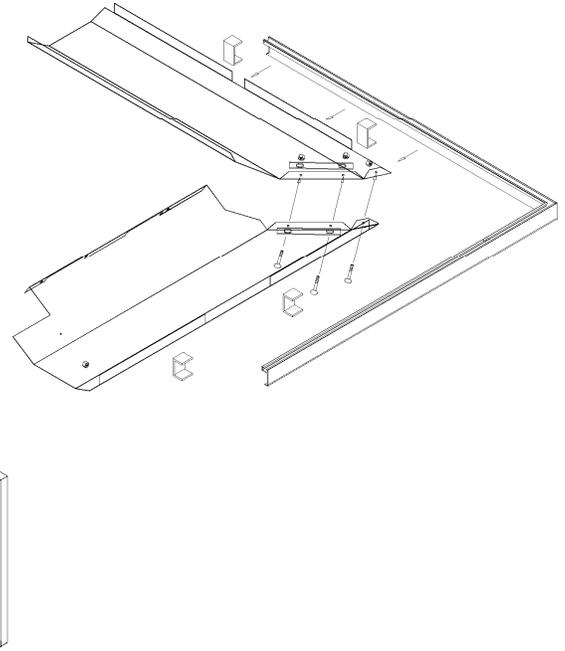

Figure 2.9d
3. Line up the holes of the side and top panels and secure with the six (6) screws, washers and nuts. (see Figure 2.9d)
5. Secure trim to faceplate using eight "U" shaped brackets. (see Figure 2.9d)